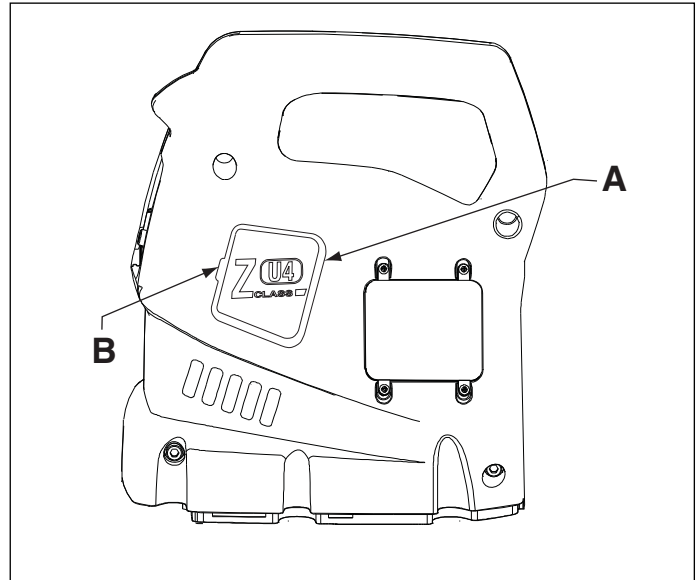

Figure 12, Brush Cap Removal
2. Remove both brush caps (A) by deflecting the brush cap latch (B) and gently prying outward (see Figure 12).